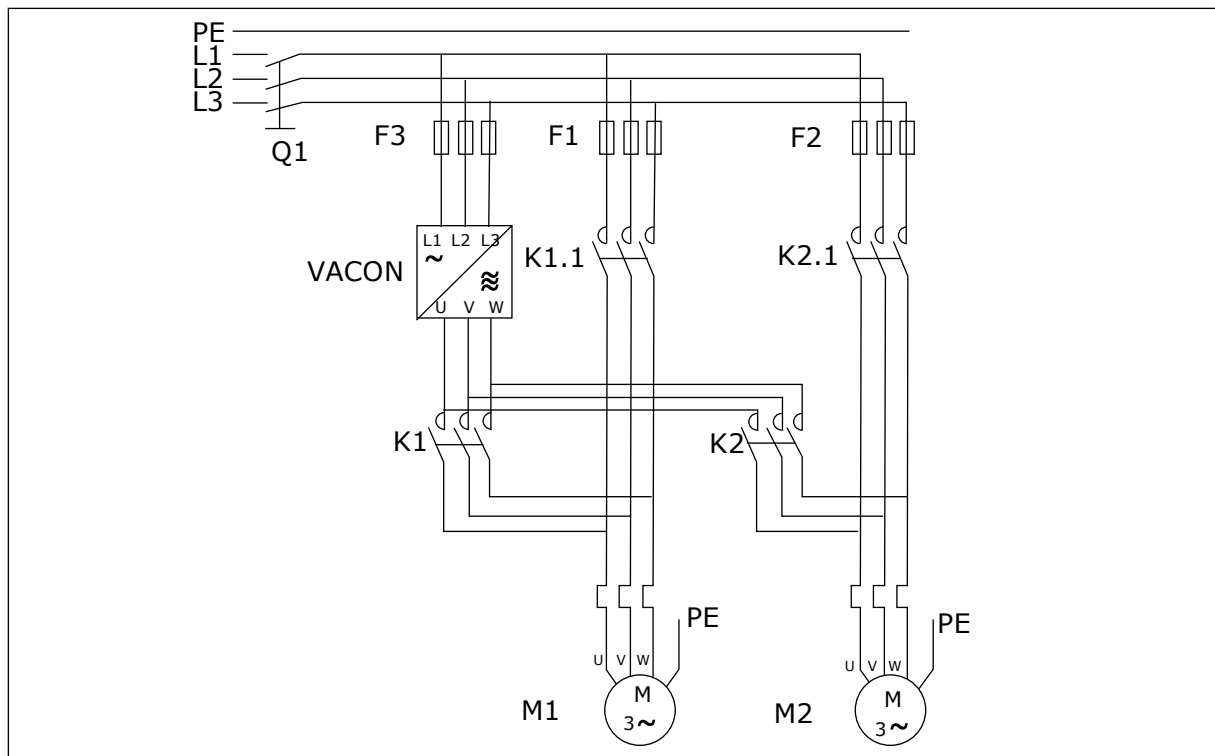
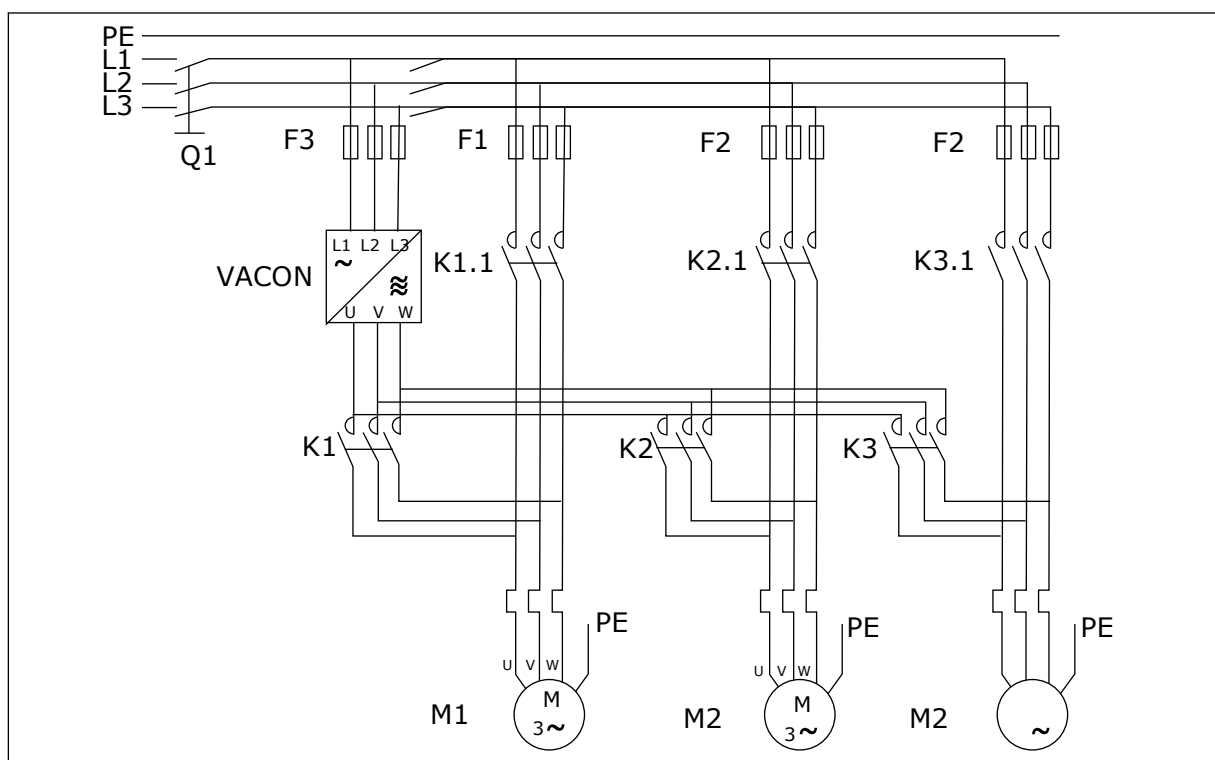

Fig. 98: Example of 2-pump autochange, main diagram
Fig. 99: Example of 3-pump autochange, main diagram
- External contactors controlled through the relay outputs of the AC drive connect the drives to the AC drive or to the mains. If the motor controlled by the AC drive is included in the autochange sequence, it is always controlled through the relay output activated first. The other relays activated later control the auxiliary drives (see Fig. 98 Example of 2-pump autochange, main diagram and Fig. 99 Example of 3-pump autochange, main diagram).
The automatic change of starting and stopping order is activated and applied to either the auxiliary drives only or the auxiliary drives and the drive controlled by the AC drive, depending on the setting of parameter 2.9.25, Automatics selection. By default, the Autochange is activated for 2 drives. See *Fig. 19 Pump and fan control application default I/O configuration and connection example (with 2-wire transmitter)* and *Fig. 98 Example of 2-pump autochange, main diagram*.